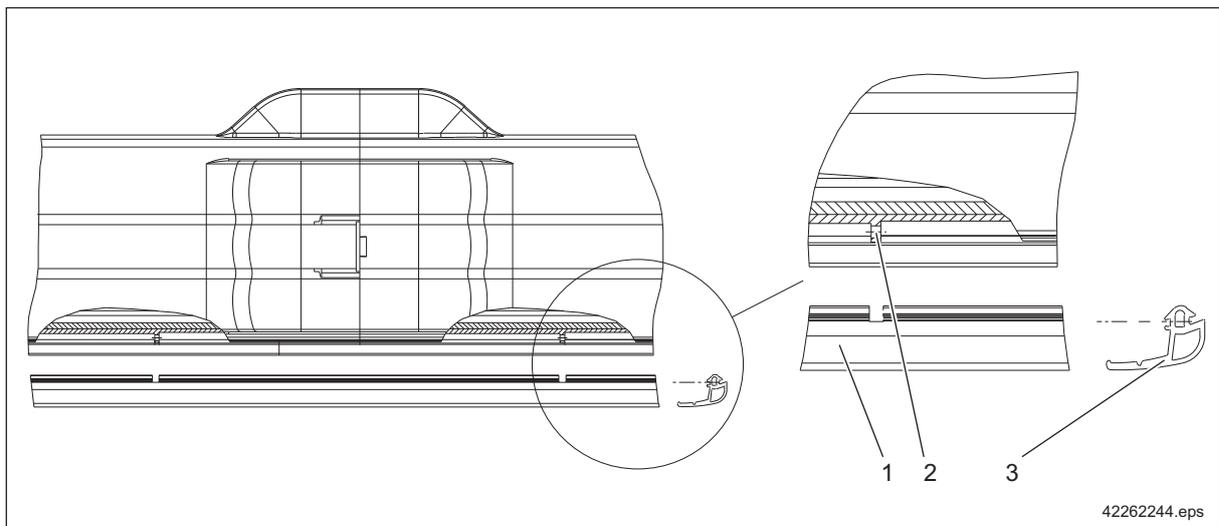

Fig. 43
The profile seal sections have to be bonded together at the joints (1)), ⇒ Fig. 43, Page 44 using cyanoacrylate glue (super glue) part no. 000 383 44) for longer DCL-Pro tracks.
- Coat retaining lug (3) of the profile seal with silicone-free lubricant (e.g. domestic detergent, liquid soap).